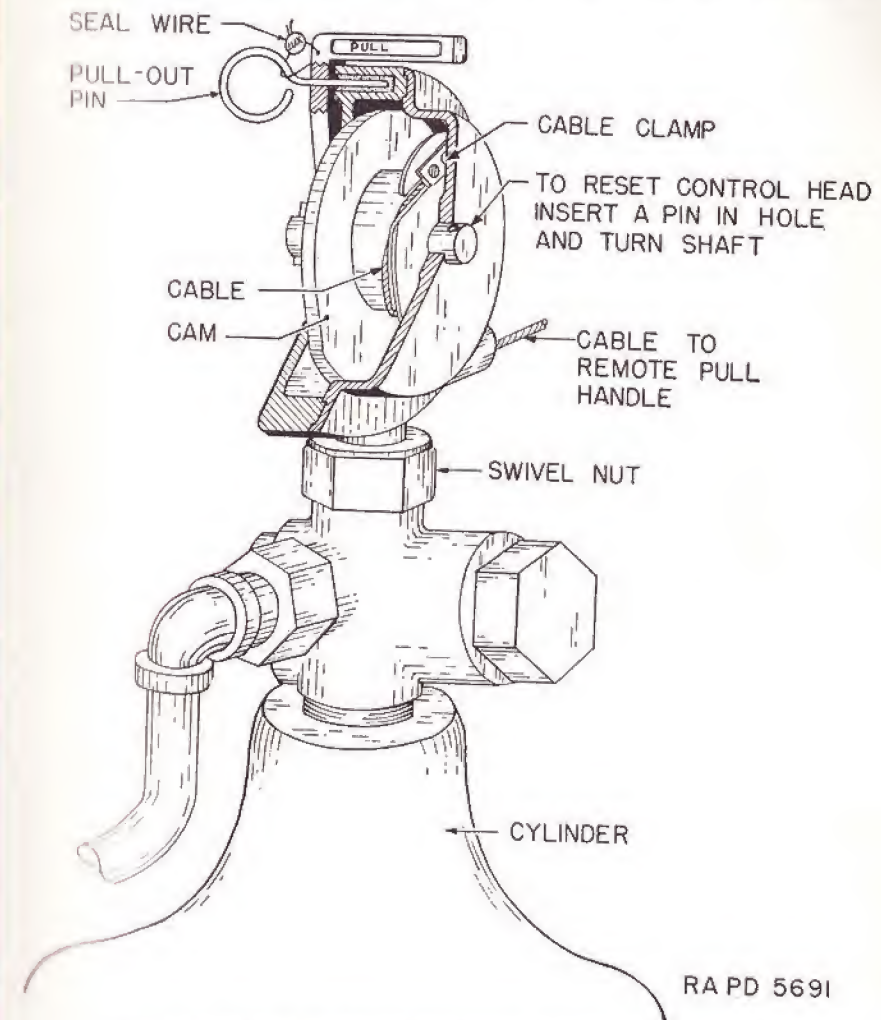

FIGURE 20.—Fire extinguisher system control head and cylinder valve.
(2) While control head is disassembled from cylinder, remove cover exposing the cam (see fig. 20). Check cable clamp set screws to make certain cable does not pull out of clamp. In order to tighten
(c) While both control heads are disassembled from cylinders, remove the cover exposing the cam (see fig. 20). Check cable clamp set screws to make certain that cable does not pull out of clamp. In order to tighten set screws, a screw driver with narrow head must be used to make certain screw driver follows screw into hole. After replacing cover, pull remote control handle to make certain that cable does not bind. The cam inside control head should rotate, and the pin advance.